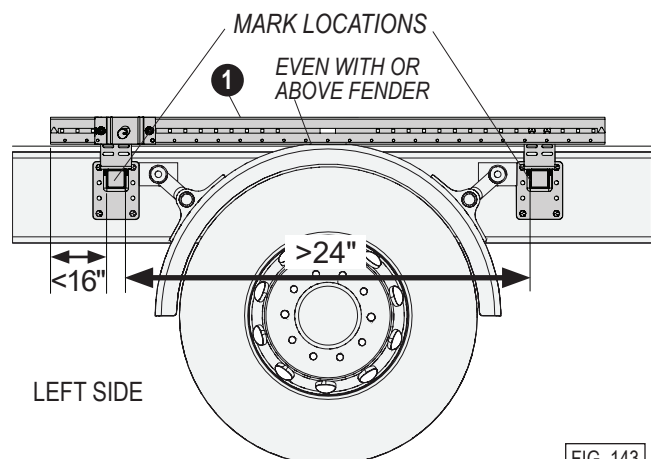

FIG. 143
- With one person holding the **left pivot assembly (1)** on the left side of the trailer, locate the general area on the frame rail where the **offset tubes mounting plates (4)** will be attached.
- No more than 16 inches of slotted tube cantilever off of the outer tube (see Figure 143).
- Mount the slotted tube in the **spring pivot assembly (1)** level with or above the lip of the fenders if straddling the tire.